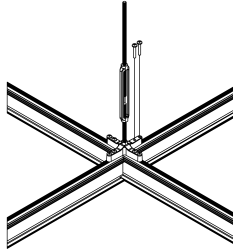

Fig 16
3.10 Secure each 4' cross tee to the main beam at every intersection using X-Bracket (DMXB) and the provided 1/4"-20 screws (**Fig 16**). Screws must be fully seated but not over-torqued (maximum 100 in-lb), to prevent damage to the threaded channel.